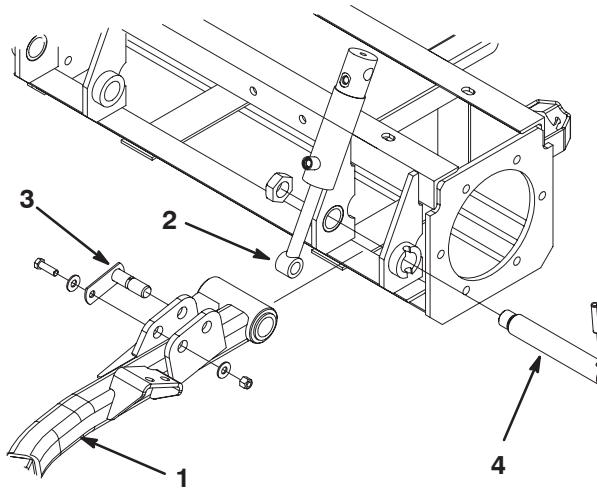

Figure 7
- Remove fasteners securing cylinder pin to lift arm. Remove cylinder pin and disconnect cylinder end from lift arm (Fig. 7).
- Remove nut securing lift arm pin to frame (Fig. 7).